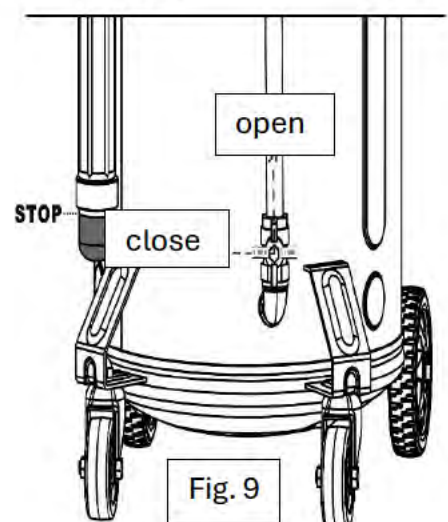

Fig. 9
3. Connect the air compressor to air inlet (1).
4. Open wing valve (5) for oil ejection.
5. Gradually open mini ball valve (4) to pressurize the tank.
7. Close mini ball valve (4) immediately if pressure approaches this limit.
9. Discharge residual oil from the residual oil cup when it reaches the STOP mark (Fig. 9).